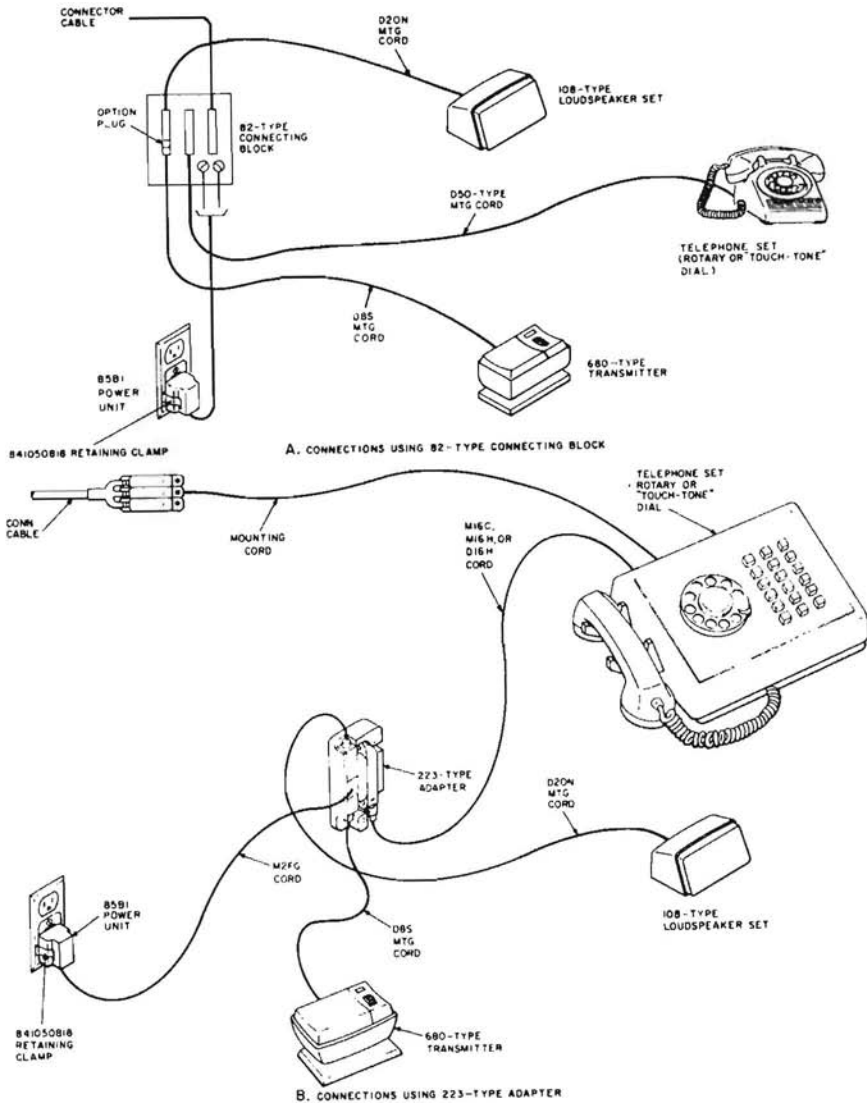

Fig. 1—Typical Arrangements of 4A Speakerphone System
2.23 A retaining clamp (841050818) (Fig. 1 and 2) will be shipped with the 85B1 power unit.